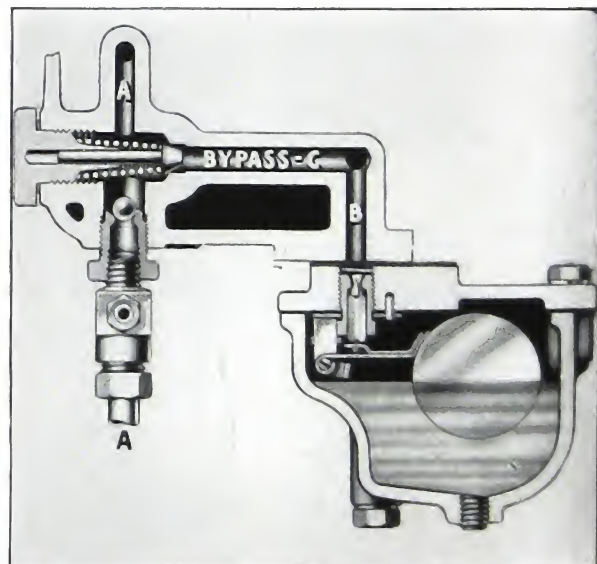

Fig. 5-113. Fuel pump float chamber and by-pass
Fuel Inlet Plug: 1. Remove the fuel inlet plug at the main fuel inlet, being careful not to lose the ball check. Clean and inspect the seat. Install the check valve and seat at the main fuel inlet. (Fig. 5-113).
2. Cross section view of float chamber, fuel inlet plug and by-pass valve in position (Fig. 5-113) will help make by-pass valve function apparent.